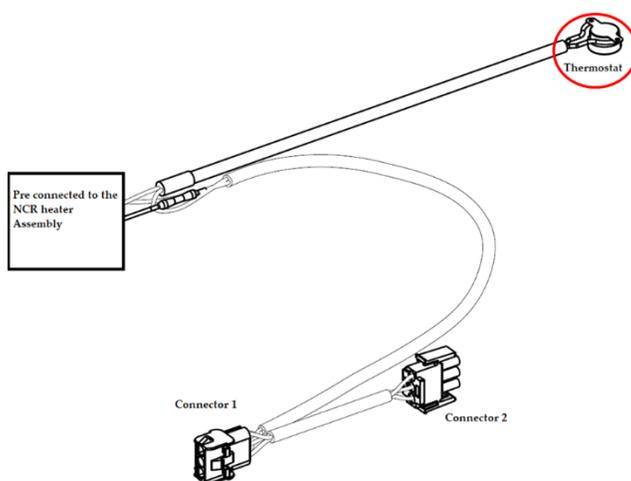
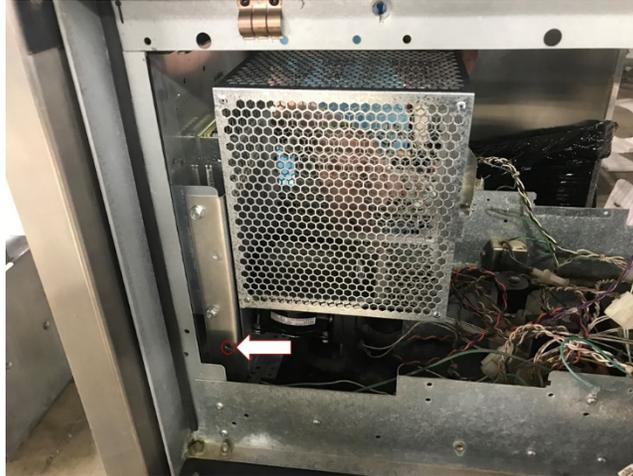
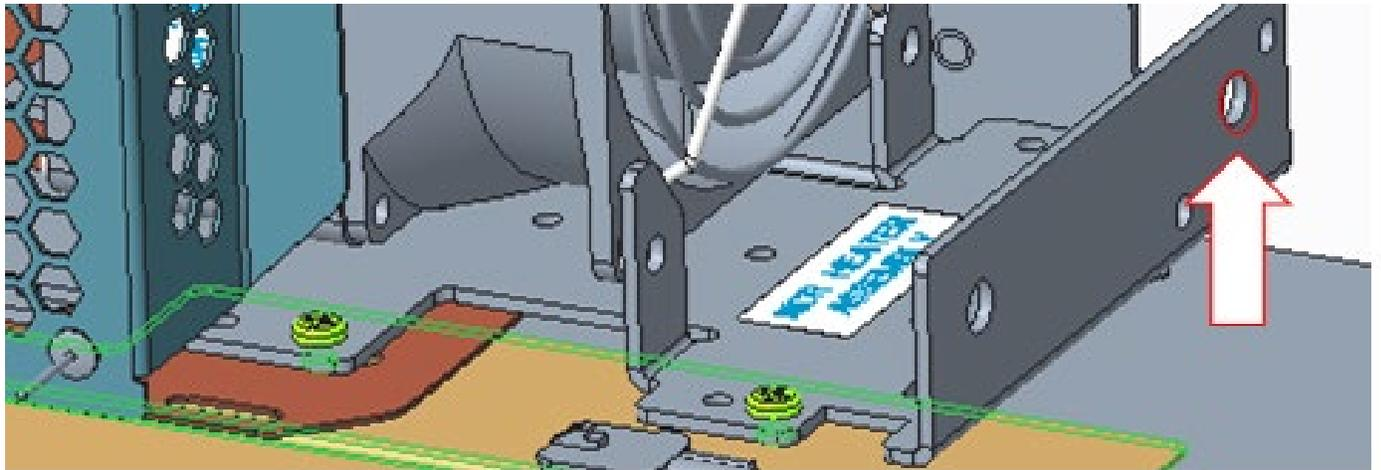

Figure 12
Figure 13
Figure 14
11) Secure thermostat (identified in Figure 12) to the bottom corner hole in the OPTIC Heater Shield Bracket Mount (497-0522505) as shown in Figure 13 or on the NCR heater assembly bracket as shown in Figure 14 using one of the supplied cable ties (006-8616073).